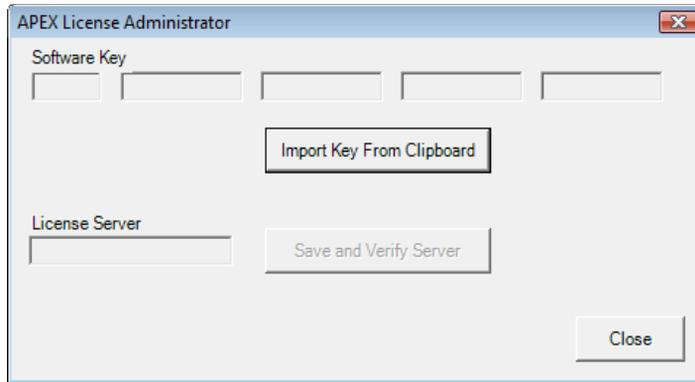

Figure 6 Importing license key
- a Open the SolidWorks Help menu, scroll down to the APEX section, and click **APEX License Administration**. See Figure 6.